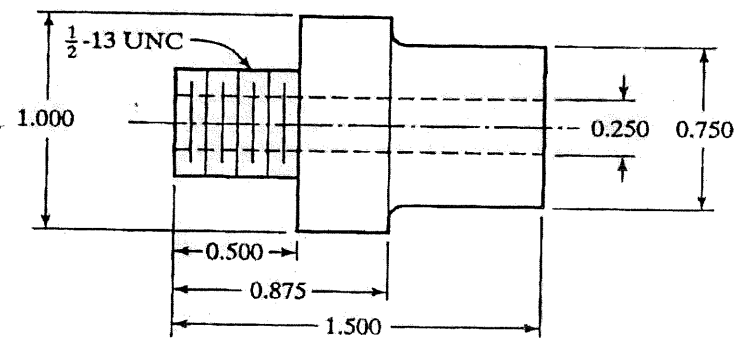

Figure 2: Part Design
- a) Given the rotational part design in Figure 2. By referring to Appendix 1, determine the form code in the Opitz classification and coding system.